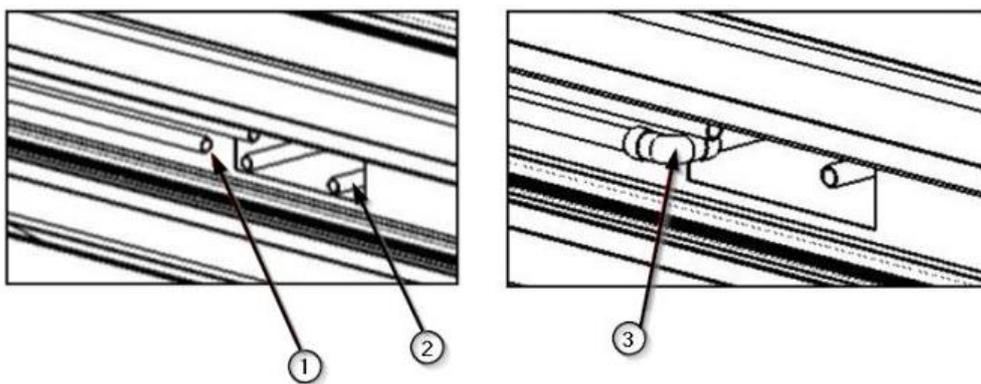

Fig.11 Cutting of pipes and fitting of copper fittings
- Cut off the pipe ① from the equipment piping and the pipe ② corresponding to the gas circuit in question coming from the installation.
- Place the copper fitting (elbow) ③ in position joining the two pipes.
- Solder the 3 components as shown in the picture on the right in figure 11.